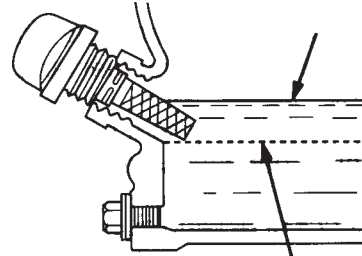

Figure 6. Engine Oil Dipstick (Oil Level)
4. If the oil level is low (Figure 6), fill to the edge of the oil filler hole with the recommended oil type (Table 5). Maximum oil capacity is 1.16 quarts (1.1 liters)